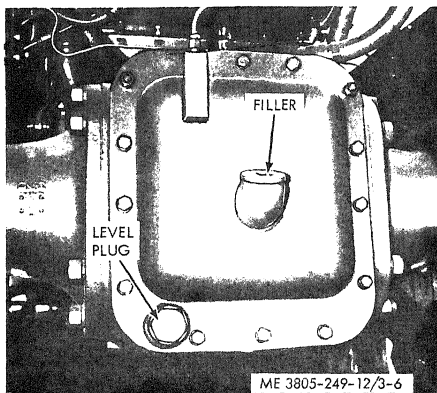

Figure 3-6. Axle housing.
(1) Remove the cap at the filler opening at the rear of the axle housing (fig. 3-6).